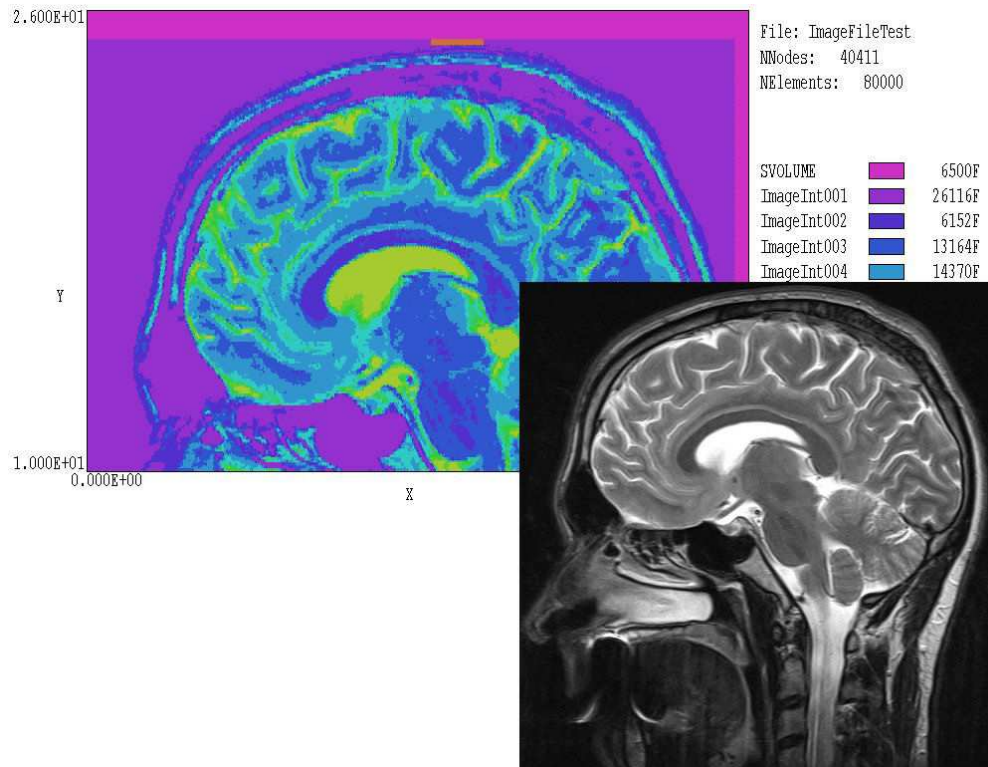

Figure 34: Example BRAINMRI – conversion of a bitmap image to a conformal triangular mesh.
This section introduces procedures for creating meshes from visual images using the example of Fig. 34, conversion of a gray-scale MRI bitmap image to a conformal mesh. The example illustrates many of the advanced features in **Mesh**. It also raises issues about what we can hope to accomplish with visual image conversion. Before beginning, it is important to understand some limitations and constraints.
- To perform electric field or thermal solutions, the image must be consistent with the two-dimensional symmetries handled by the codes of the **TriComp** series. The image of Fig. 34 does not have planar or cylindrical symmetry – we should consider it only as a demonstration of mesh techniques.
- In processing visual images, **Mesh** can divide the solution area into regions based on *Lightness* or *Hue* values. These values must have some correlation with the physical properties assigned to the regions in subsequent solution programs. Sometimes images may be directly useful. For example, we could photograph the cross-section of a complex iron pole piece with a distinctive color and use the picture to generate the corresponding region in a magnetic field solution. The image of Fig. 34 may not be directly useful. The lightness values depend on the concentration of nuclear species and there may be little direct correlation with quantities like thermal or electrical conductivity.
brain structures in Fig. 34 and then to change them to a distinctive color that could be easily identified by **Mesh**.
- **BRAINMRI.BMP**. The bitmap image (shown on the lower right-hand side of Fig. 34) in Windows/OS2 bitmap format.
The remaining two *Region* sections place electrodes on the skull. The region designated *Electrode02* is visible as the orange rectangle near the top of the mesh in Fig. 34.